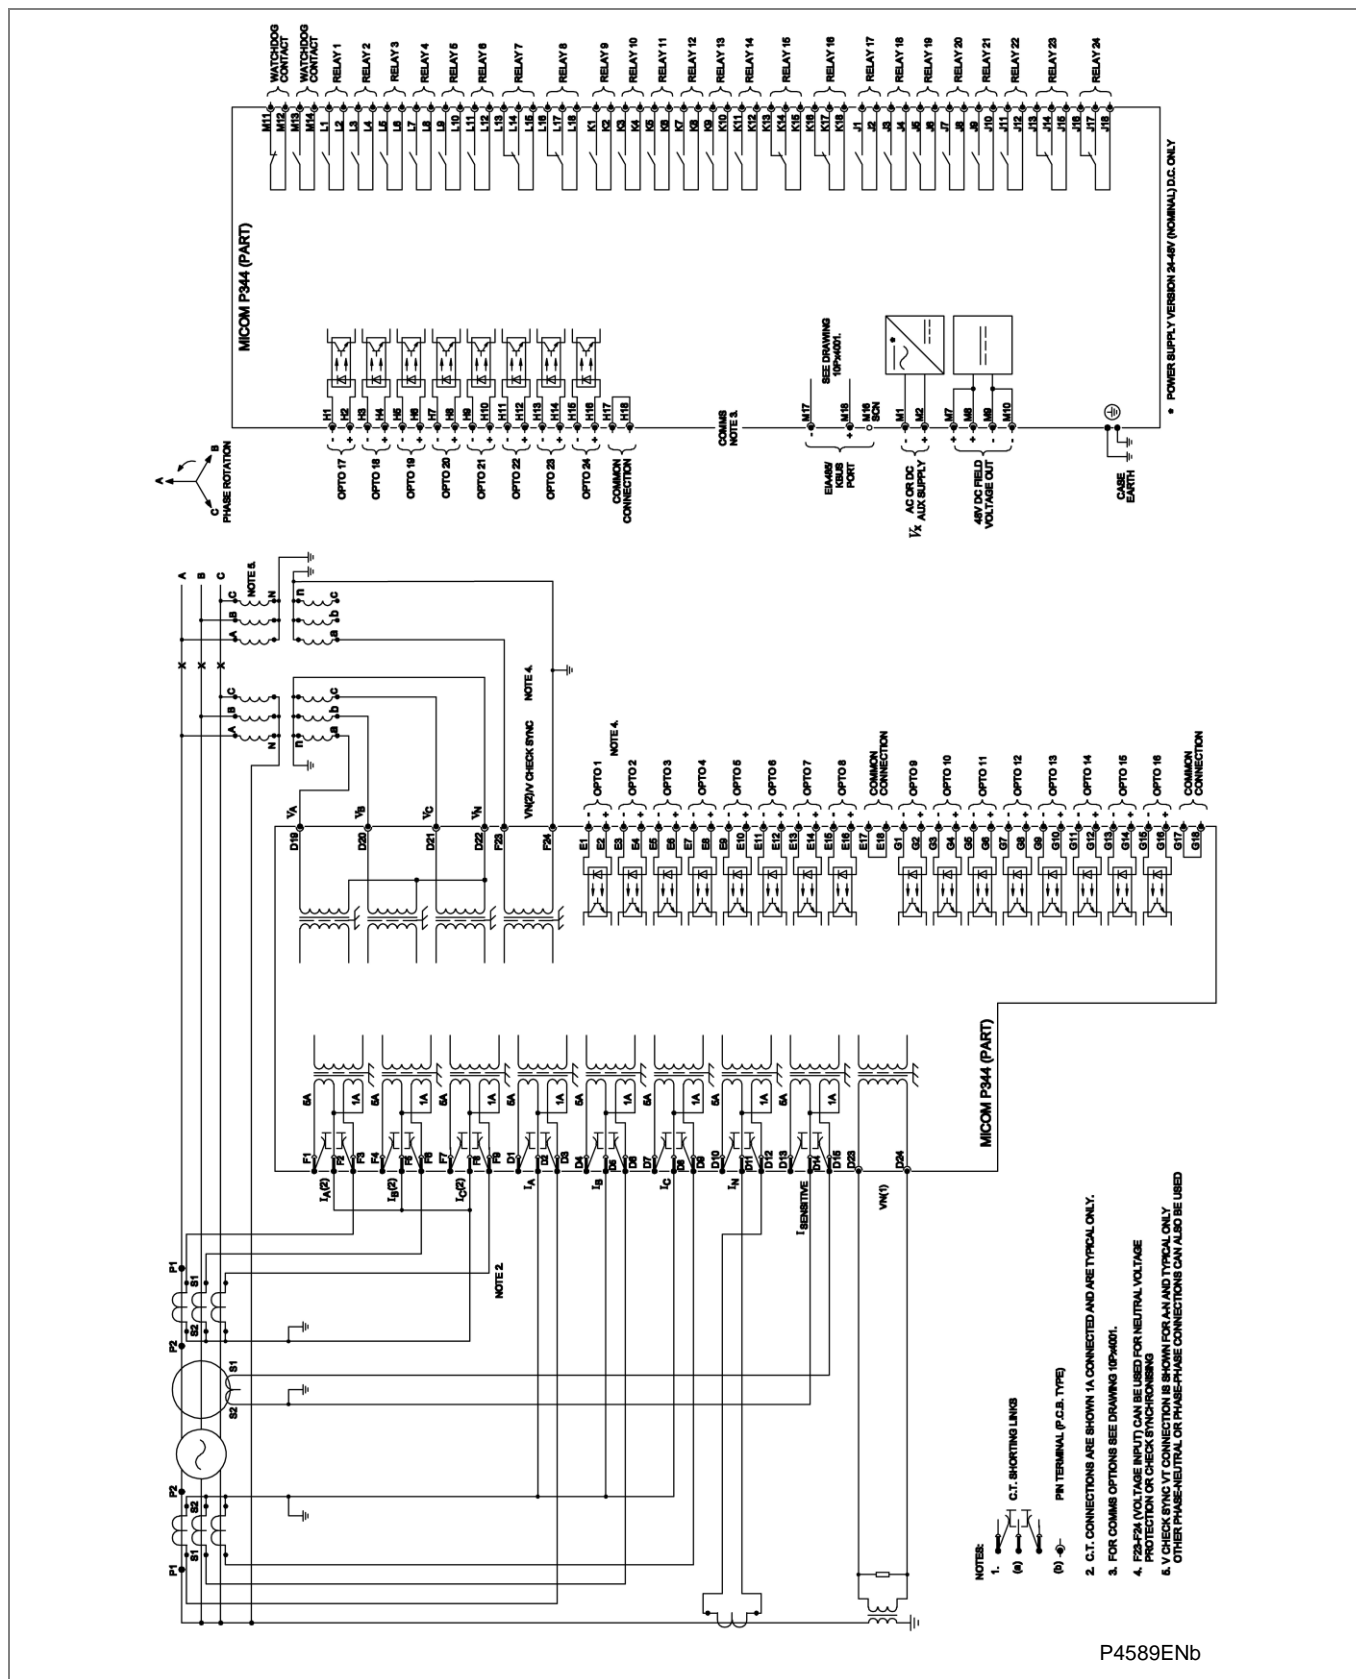

Figure 41 - P344 (80TE) for biased differential and check synchronizing (24I/P & 24 O/P)
- Figure 41 - P344 (80TE) for biased differential and check synchronizing (24 I/P & 24 O/P)